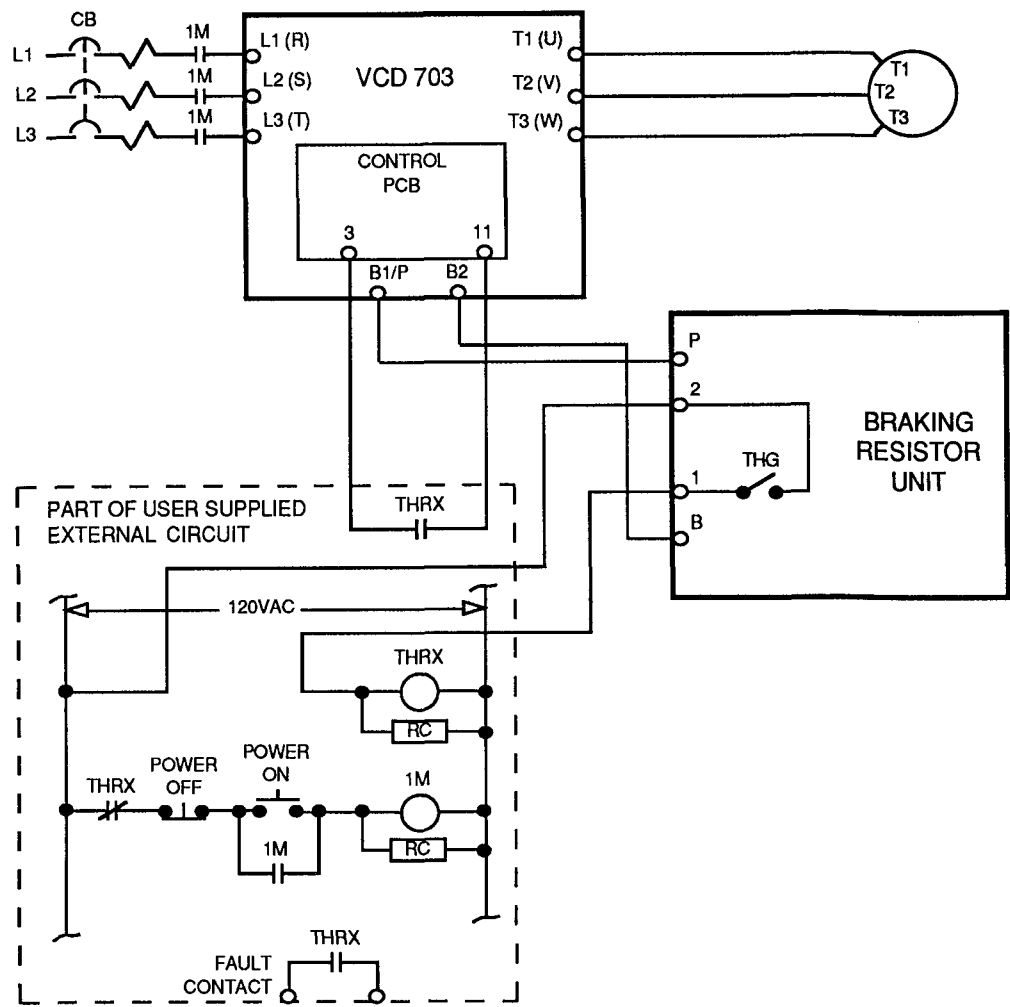

Figure A5-3. Wiring Braking Resistor Unit to Drive (230V 3-10HP, 460V 1-20HP)
2. Remove the Braking Resistor Unit front cover to access its terminal block. Connect the Braking Resistor Unit to the drive and to external control circuitry according to the chart at right and Figure A5-3.